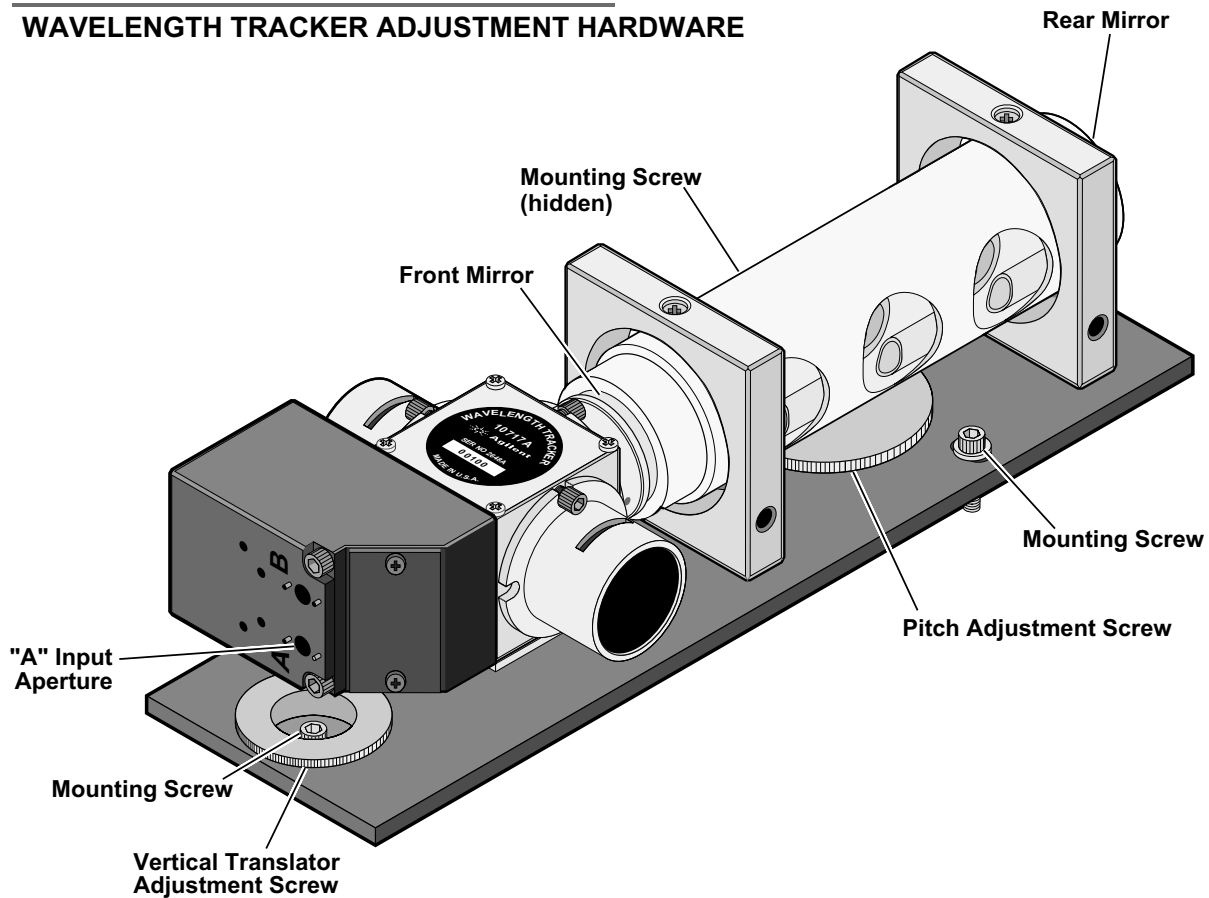

Figure 7I-5. Agilent 10717A Wavelength Tracker adjustment hardware
- 4 Tighten the front mounting screw (Figure 7I-5) until slight resistance is sensed.
- 5 Place a piece of translucent tape over the differential interferometer's "A" input aperture (see Figure 7I-4). Flatten the tape tightly against the input "A" aperture to produce a high-resolution outline of the input aperture. You should see a well-defined laser pattern on the tape.